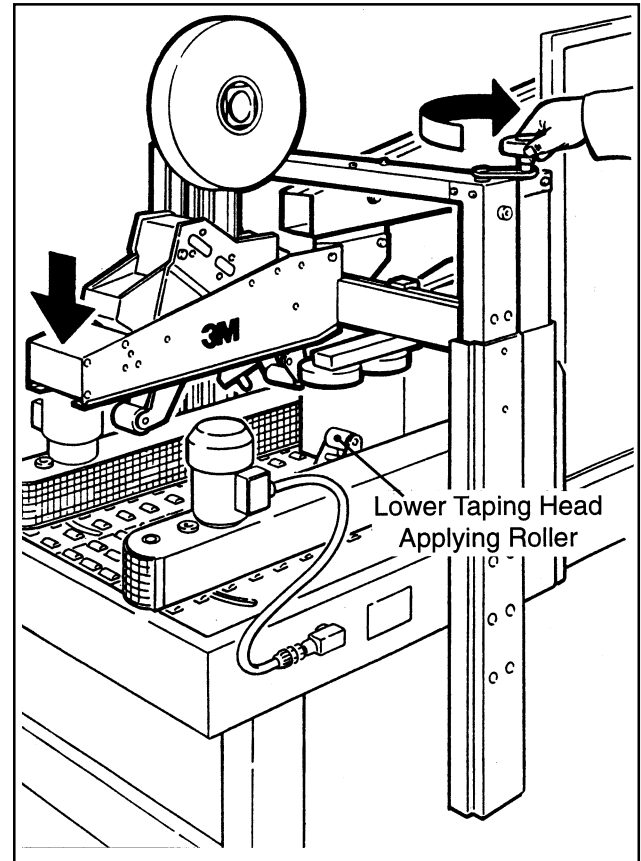

Figure 3-8 – Box Size
4. HEIGHT ADJUSTMENT (FIGURE 3-8)